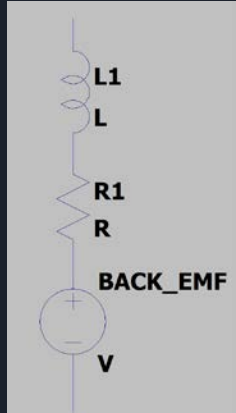

Figure 2.
- There are many mechanical properties of a DC motor, such as internal friction, non-zero turn-on voltage, etc. In this lab, our DC motor model considers the back EMF effect of DC motors, as briefly mentioned in lab 5. A model of the DC motor that considers back EMF is illustrated in figure 2.